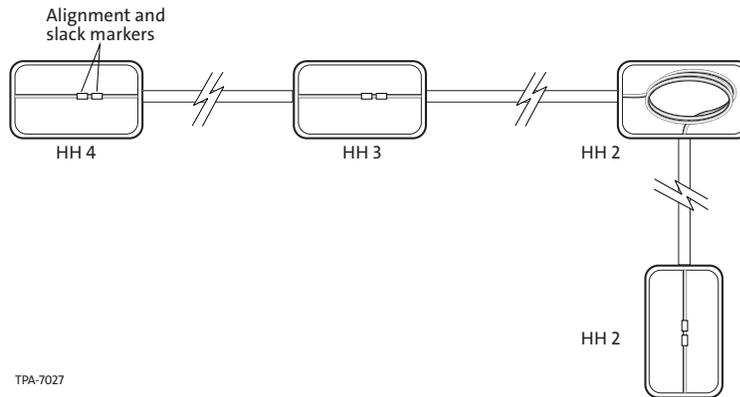

Figure 13
7.18 Once the FlexNAP™ System cable assembly is pulled into place and appropriate slack is available, verify all the FlexNAP System Taps” are at the intended placement locations (Figure 13).